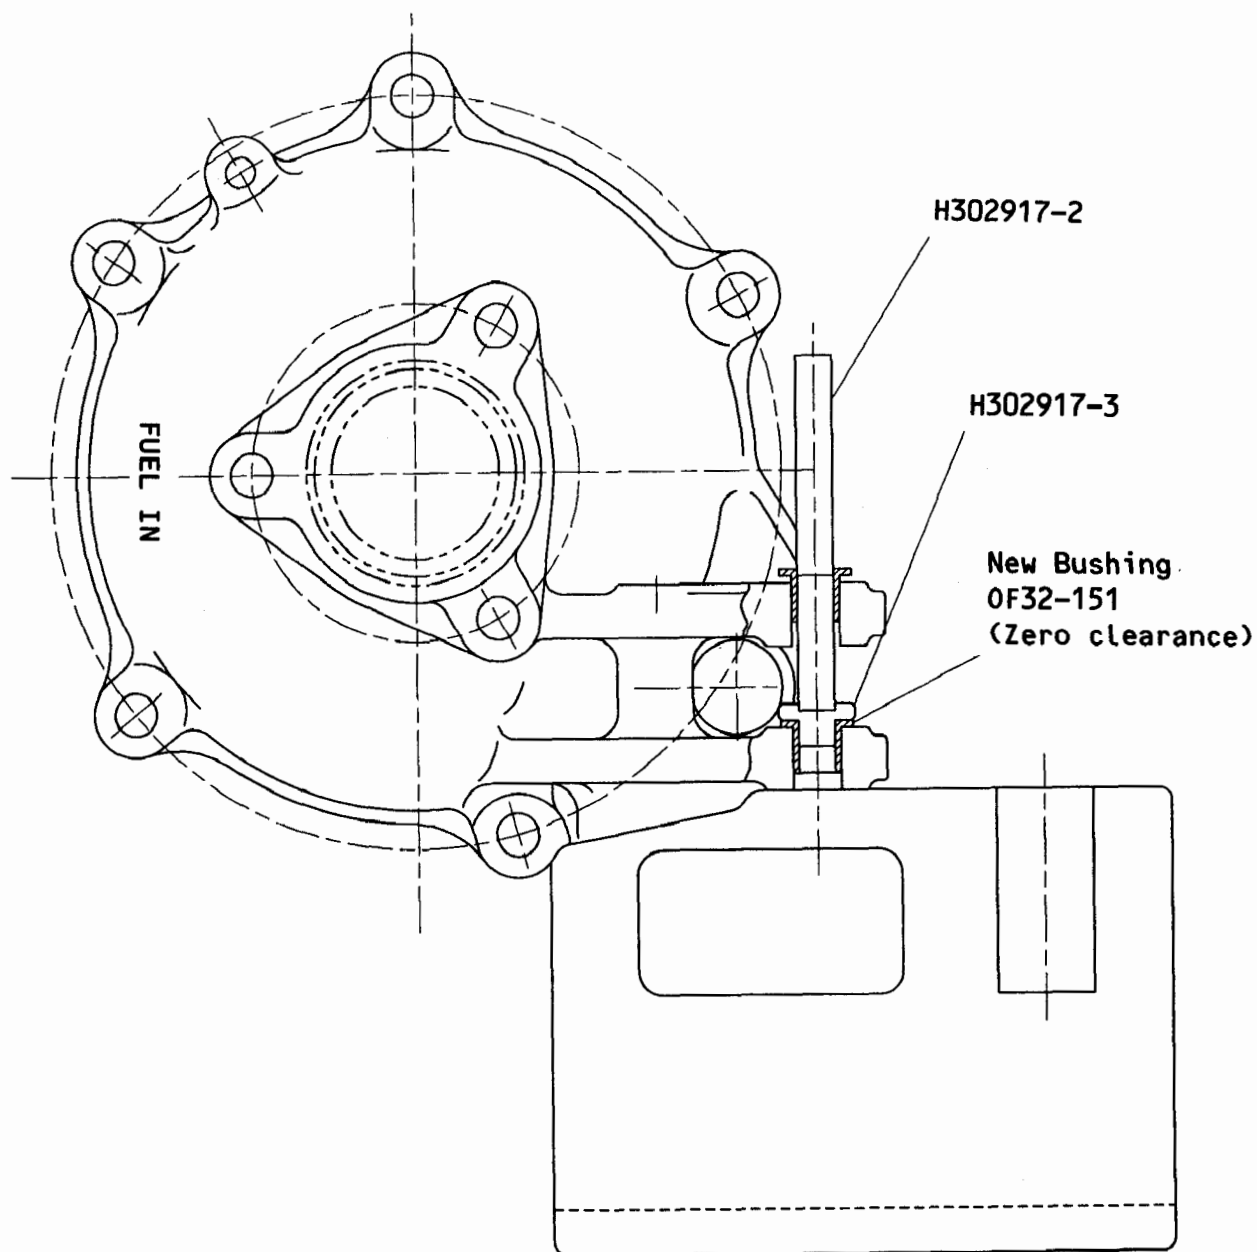

Figure 4 Set-Up Inserting Bushing (0F32-151)
- (e) Gradually add press force until the clearance between the bushing flange and the casting surface decreases to approximately one (1) mm.
- (g) Set up the Header, the primed Bushing and the Tools as shown on figure 4.